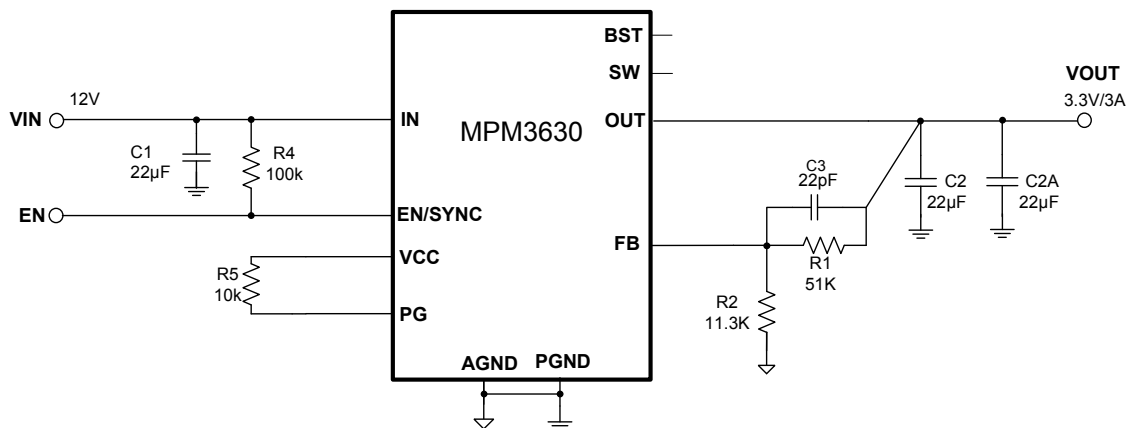

Figure 14: Vo = 3.3V, Io = 3A
- 9) The recommended layout is based on the Figure 14 Typical Application circuit.
The detailed application schematic is shown in Figure 14. The typical performance and circuit waveforms have been shown in the Typical Performance Characteristics section. For more device applications, please refer to the related Evaluation Board Datasheets.